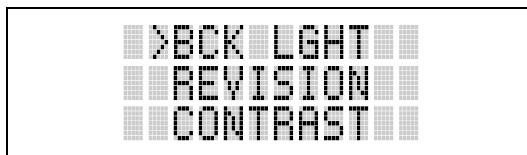

Figure 9-6: Menu Display
2. Upon entering the menu selection mode, Menu options will appear in the display (see Figure 9-6).